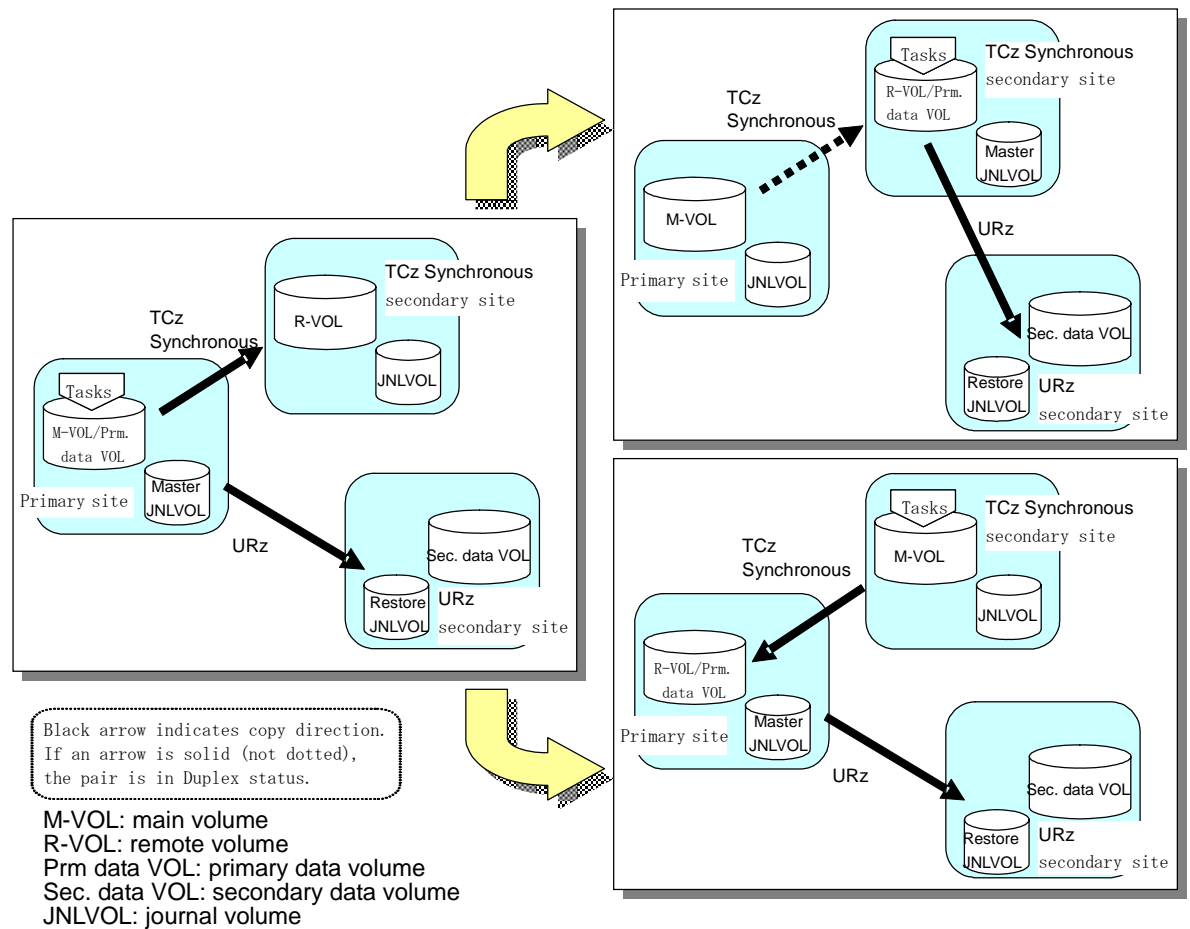

Figure 10-2 Recovering from Failures in the Primary Site
- a) If reversing of the copy direction fails (as illustrated in the upper-right picture in Figure 10-2), create a URz pair. Ensure that the primary data volume of the pair is a volume in the TCz Synchronous secondary site, and that the secondary data volume of the pair is a volume in URz secondary site. To create this URz pair, use Business Continuity Manager to execute **YKMAKE** command on the journal group corresponding to the pair.
- b) If reversing of the copy direction ends successfully (as illustrated in the lower-right picture in Figure 10-2), re-create the URz pair that was released in step 1 of this procedure. To re-create this pair, use Business Continuity Manager to execute **YKMAKE** command on the journal group corresponding to the pair.